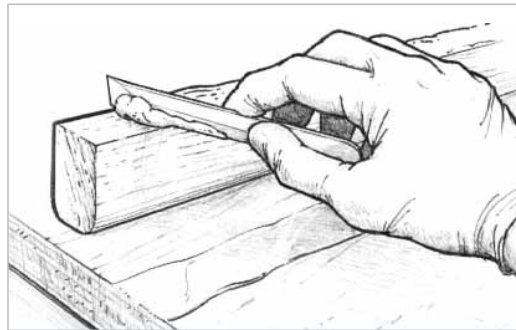

Figure 5-9 Apply enough thickened epoxy to one of the bonding surfaces so that a small amount will squeeze out of the joint when clamped with moderate pressure.
2. Apply thickened epoxy to one bonding surface. Modify the resin/hardener mixture by stirring in the appropriate filler until it becomes thick enough to bridge any gaps between the mating surfaces and to prevent “resin-starved” joints. Apply enough of the mixture to one of the surfaces, so that a small amount will squeeze out when the surfaces are joined together with a force equivalent to a firm hand grip (*Figure 5-9*).